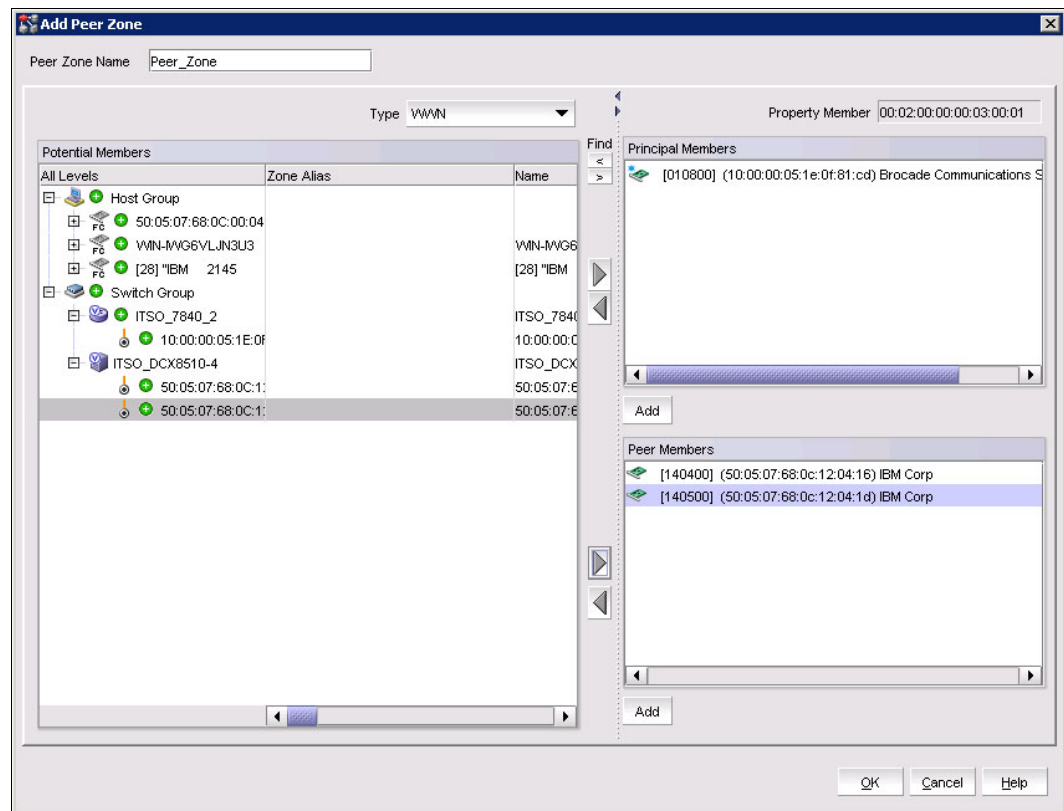

Figure 10-8 Add Peer Zone window
5. Select a principal device or devices from the Potential Members pane and click the upper right facing arrow (see Figure 10-8 on page 264) to add it to the Principal Members pane.
6. Select an additional device or devices in the Potential Members pane and click the lower right facing arrow to add them to the Peer Members pane (see Figure 10-8 on page 264).
Figure 10-8 shows the Add Peer Zone window.